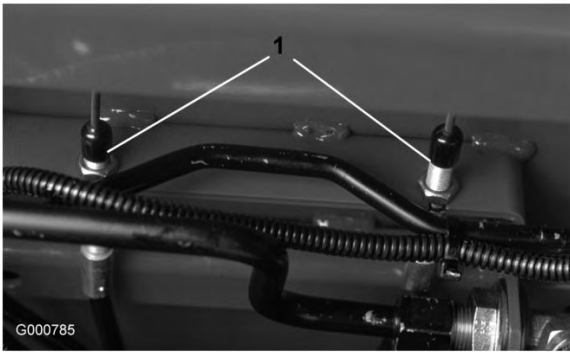

Figure 76
2. To reduce free travel of brake pedals, tighten the brakes by loosening the front nut on the threaded end of the brake cable (Figure 76). Then tighten rear nut to move cable backward until brake pedals have 1/2 to 1 inch of free travel. Tighten front nuts after brakes are adjusted correctly.